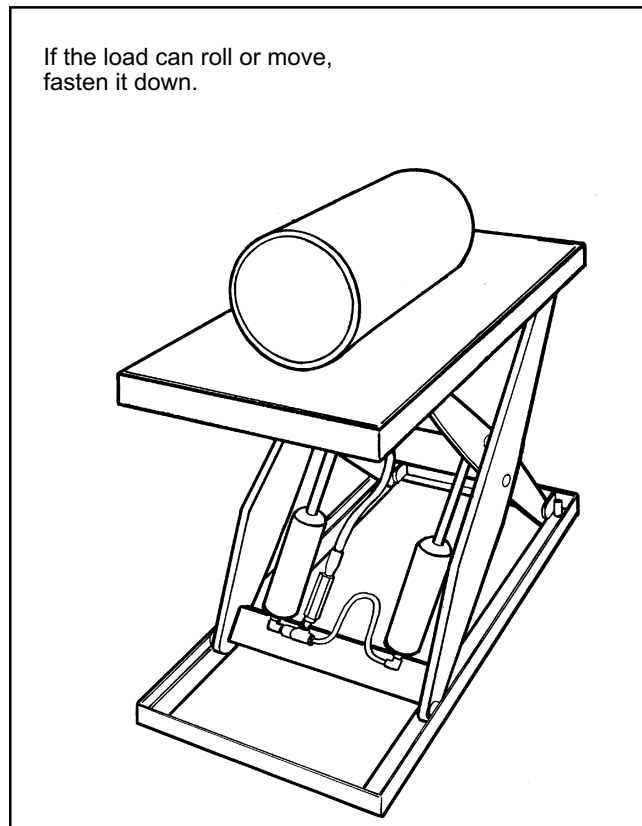

Fig. 4 – Secure the Load
- If you are lifting pipes or other objects which may be able to roll or move, fasten them down, or chock them. Fig. 4.